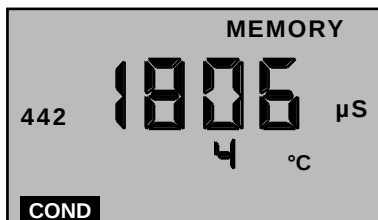

Figure 6
2. "MEMORY" will appear and the temperature display will be momentarily replaced by a number (1-20) showing the position of the record. Figure 6 shows a reading of 1806 μS stored in memory record #4.